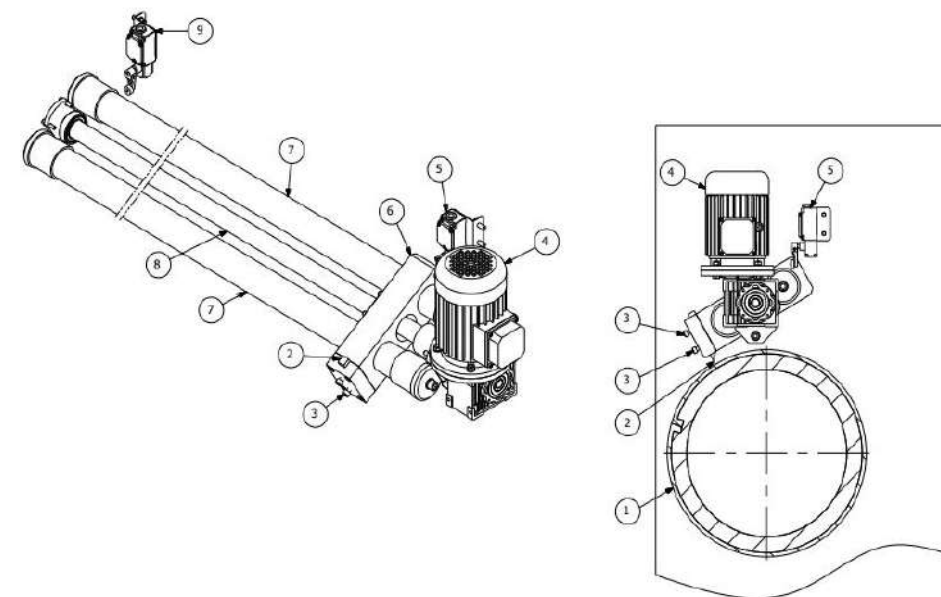

Figure 19
- B)** Loosen the "3" set screw in Figure 19, and adjust the feed of turning tool.